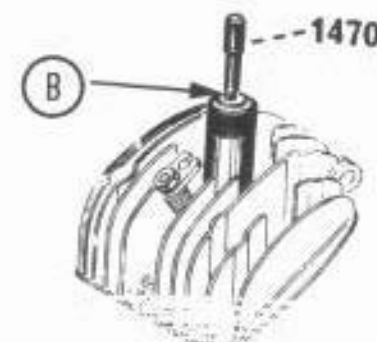

Fig. 13-1
- 2) Remove the spark plug and screw in the timing gauge #1470 finger tight. Fig. 13-1.
- 4) Unscrew the timing gauge slowly until the shoulder of the tool reaches the bottom of the YELLOW mark on the stem. See "B" Fig. 13-1.